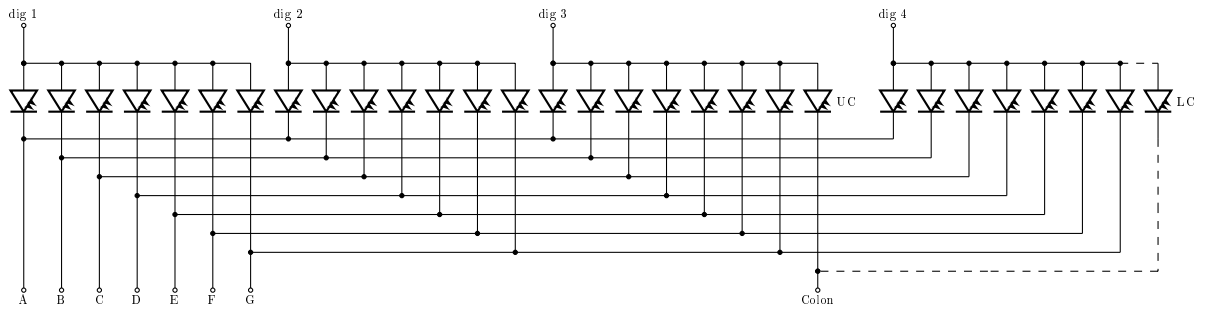

Figure 5: A 4-digit common anode display with a separate segment pin for colon
**Additional segment pin for colon.** Two separate LEDs are used for the upper and lower dot in the colon (UC and LC) as shown in Fig. 5. They share an additional segment pin (labelled “colon”) for turning on/off colon. They share digit pins with other digits. On some variants only one LED (UC) is present (at least apparently). This is indicated by the dashed line. These kind of displays are configured by `setColonPin()`.